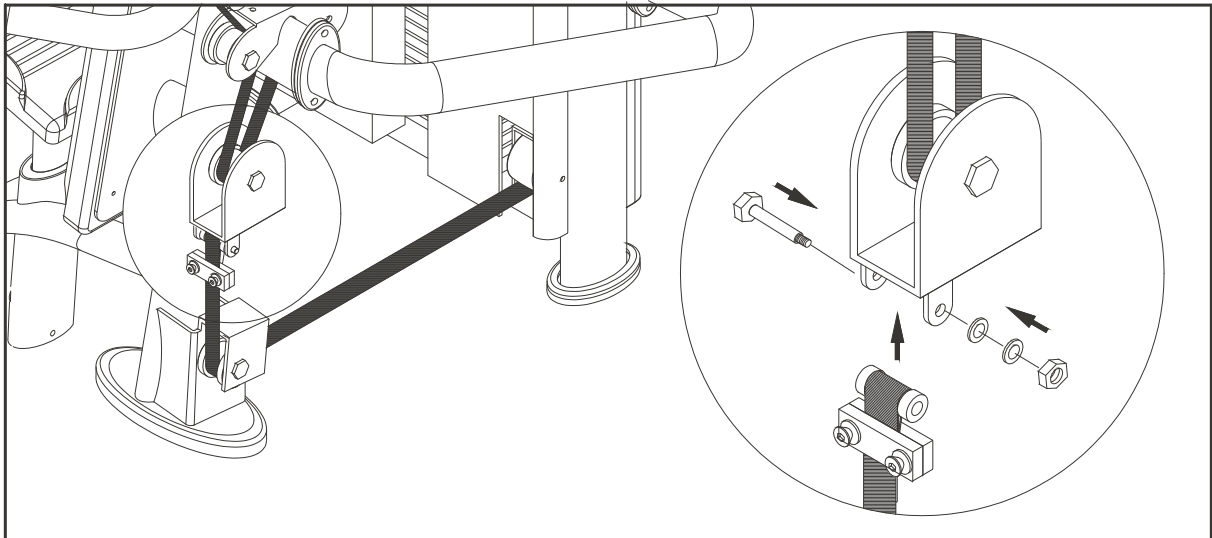

Fig.3
4. Connect the belt and pulley as shown in Fig.3.